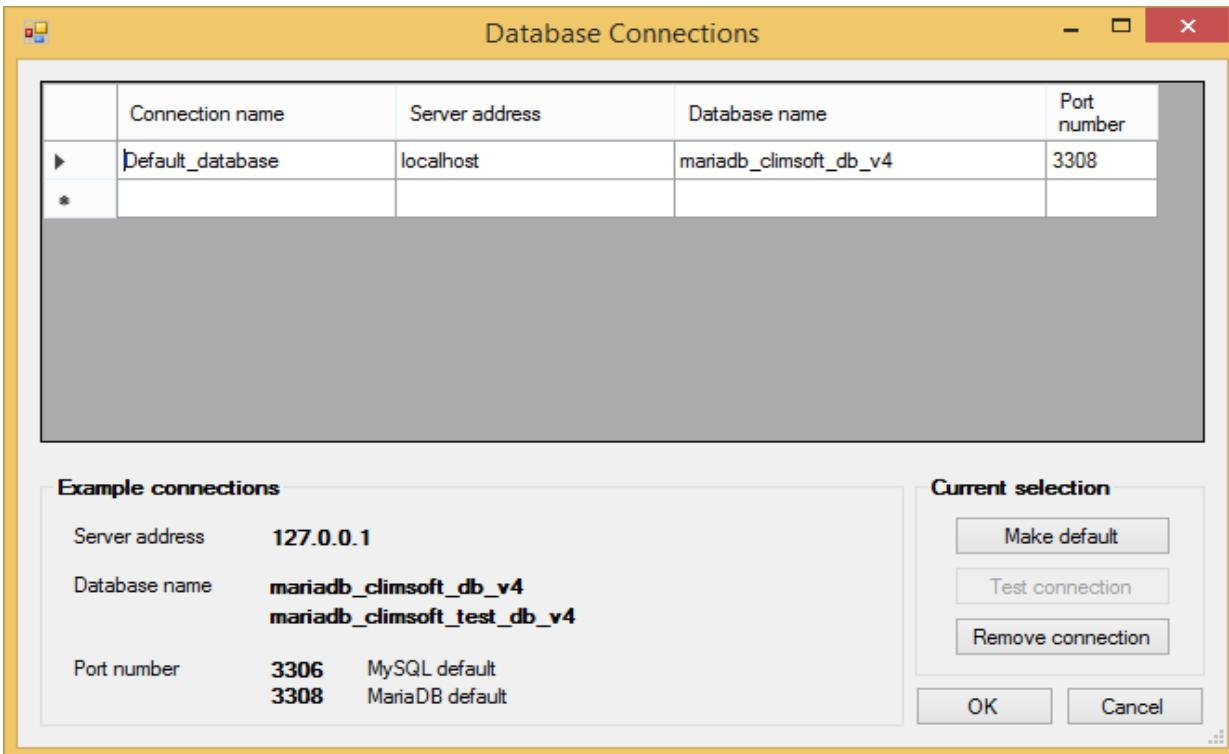

Figure 7: Database connection details
- (iv) If you are sure you have typed the correct password but have been denied access, click on the blue label “**Manage database connections**” on the above dialog to check the database connection details and adjust accordingly. Then a dialog similar to **Figure 7** appears.